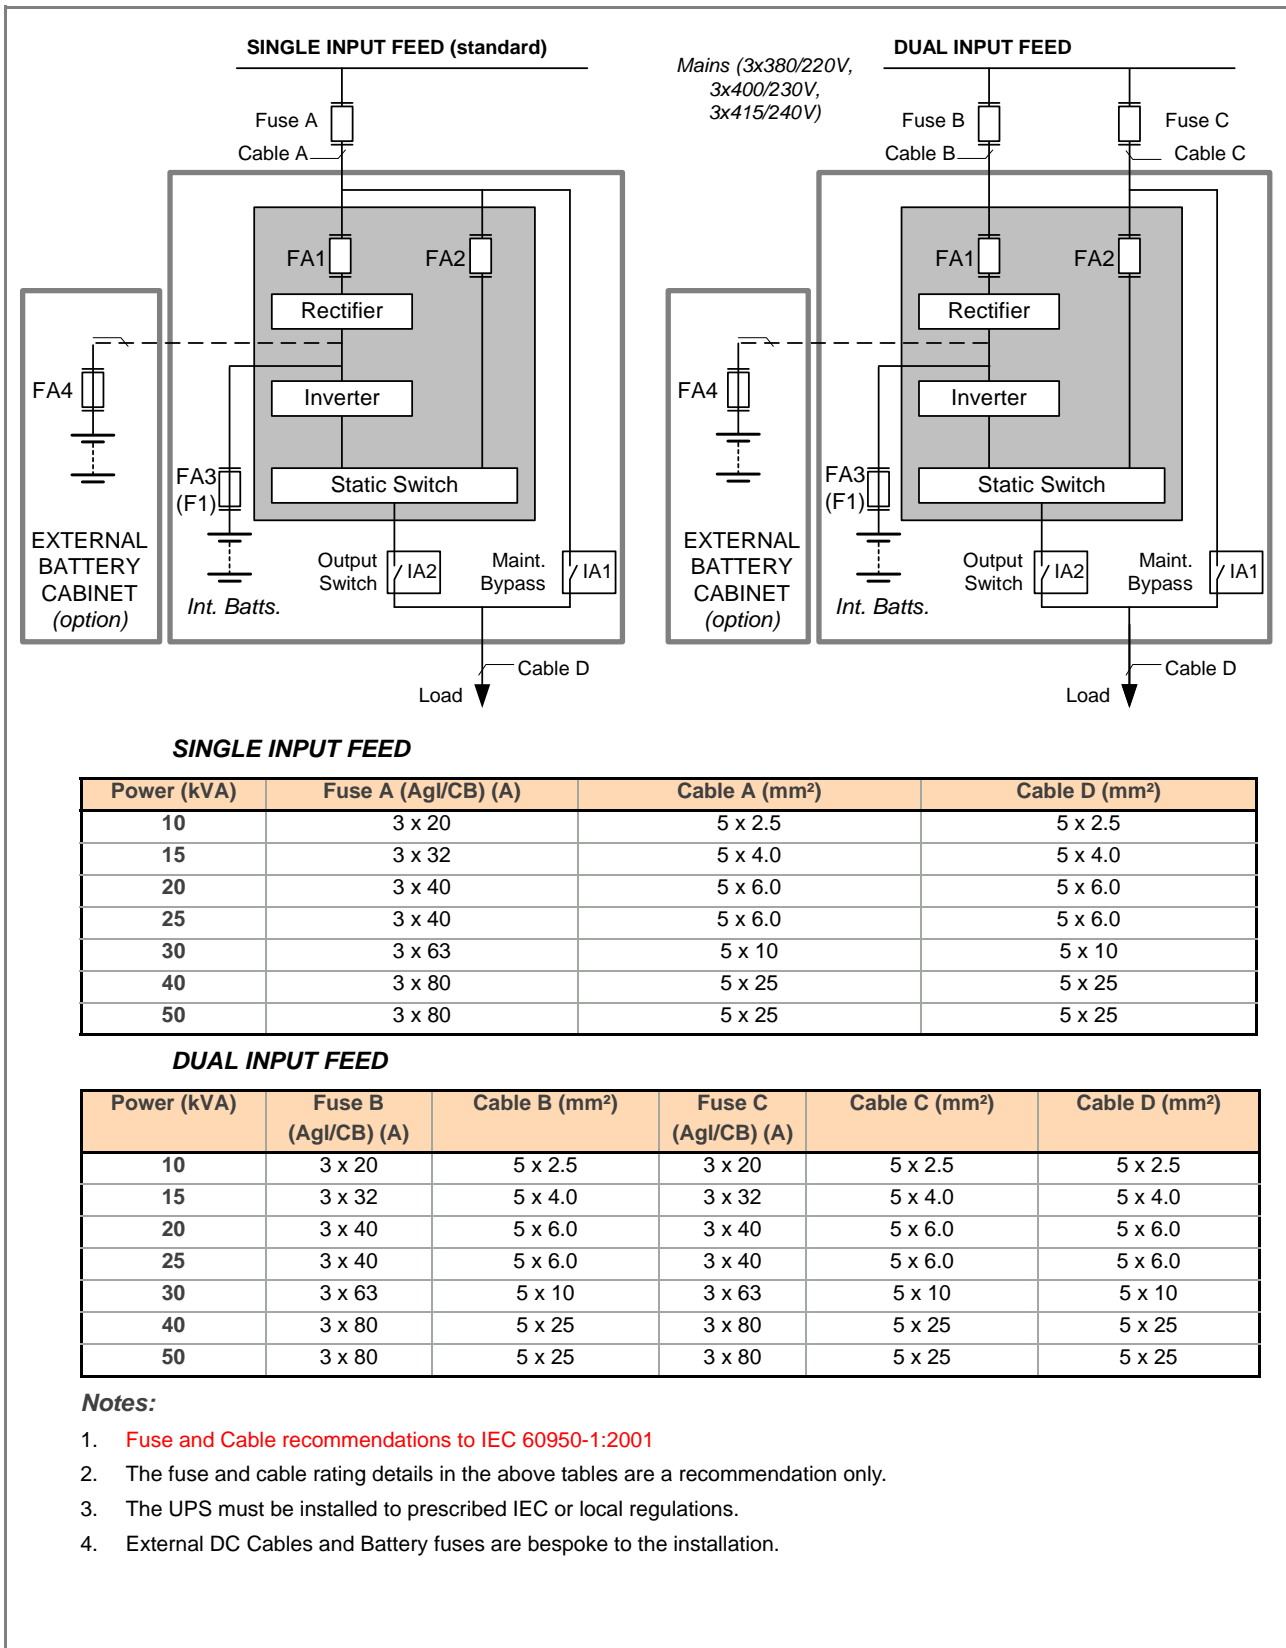

Figure 3.4 Kohler PW 5000/TP fuse & cable rating
The UPS can be wired with a 'single feed' input (standard), whereby the UPS input supply is internally connected to the UPS bypass circuit, or it can be wired with a 'dual feed' input – where the UPS bypass circuit is connected to a dedicated 'bypass' supply (See Figure 3.4).
Figure 3.4 identifies the UPS input/output cabling requirements and provides information regarding the necessary fuse and cable ratings, and cable sizing.
- Ensure that the provided fuses and cables satisfy the ratings shown in Figures 3.4 and 3.6/ 3.7, and are in accordance with the prescribed IEC Standards or local regulations.